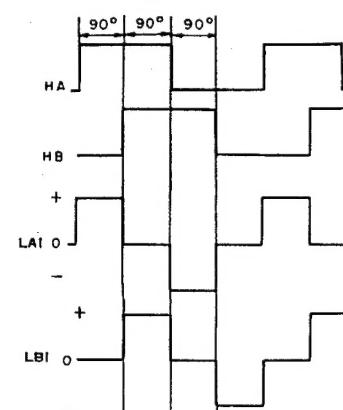

Fig. 10-15 Drive Circuit Waveforms
- 2 . The position detection signals from the Hall elements are input into the position signal compound circuit shown in the block diagram and waveform shaping takes place as indicated in Fig. 10-15.
- 3 . The waveform-shaped step waves are input into the four-phase drive circuit shown in the block diagram. The duty 90 voltage like that shown in Fig. 10-15 is switched alternately between LA and LB, causing the motor to turn.